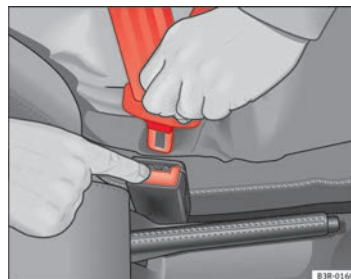

Fig. 15 Removing latch plate from buckle
- Press the red button on the belt buckle ⇒ Fig. 15. The latch plate is released and springs out ⇒ .